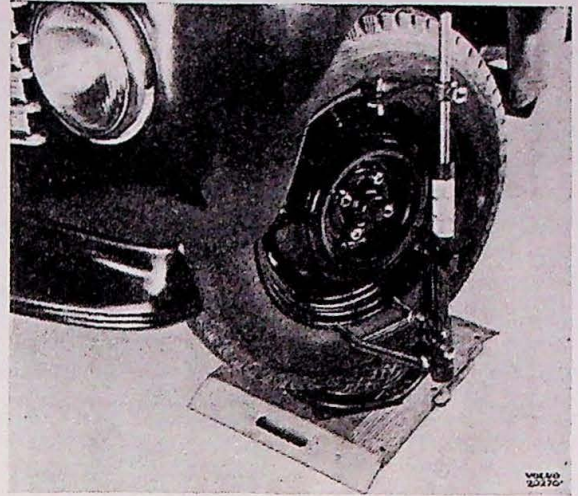

Fig. 32.
3. Turn the wheel 20 degrees inwards (fig. 32).